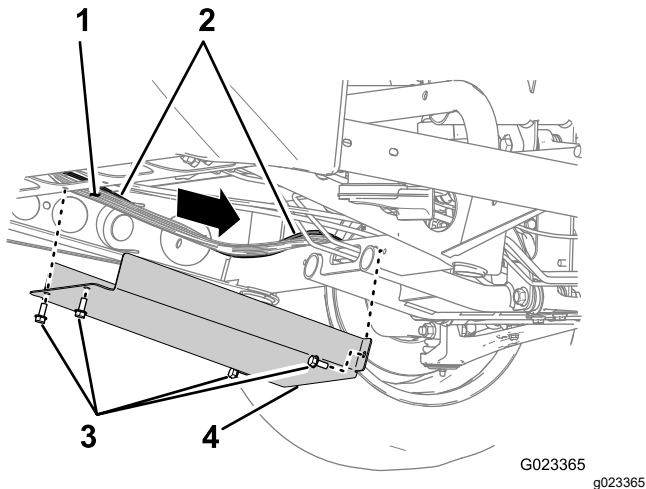

Figure 24
2. Remove the 4 bolts that secure the lower cover to the machine (Figure 24).
3. Route the wire harness of the kit along the rear main harness of the machine and rearward over the cross channel of the frame as shown in Figure 24.
4. Install the lower cover with the 4 bolts that you removed in step 2 (Figure 24).